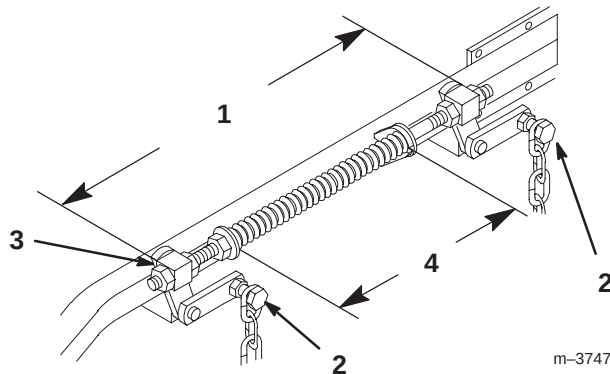

Figure 56
6. Loosen four (4) top chain bolts in slots. Check the length of the rod/swivel assemblies. Distance from outside of rear swivel to outside of front swivel should be 19-17/32 in. (496 mm) (Fig. 56). Make sure that all four swivels move freely in holes.
2. Springs are compressed so the distance between the two large washers should be 10–1/4 in. (260 mm) (Fig. 56).
3. Adjust by turning nut in front of each spring (Fig. 56). Clockwise will shorten spring; counter-clockwise will lengthen spring.